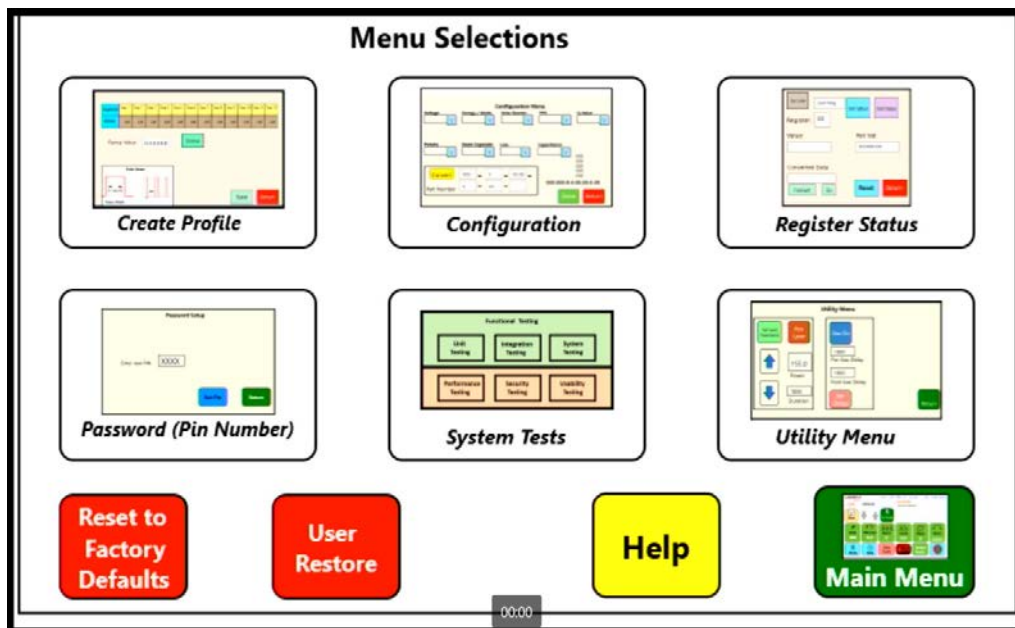

Figure 85
2. Touch Password (Pin Number) (Figure 85)
15. Now press (Done) (Figure 85)
15. Press Main Menu Button (Figure 85)
9. Press Main Menu Button (Figure 85)